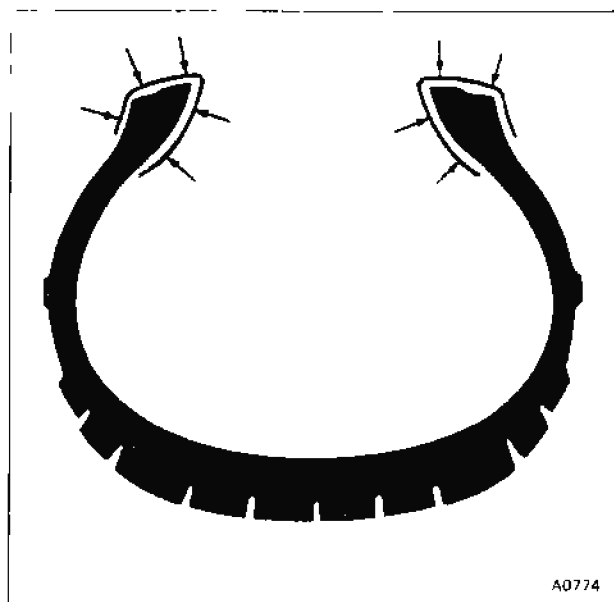

Fig. 3
- 4 Lubricate both tyre bead seat areas as shown in figure 3.